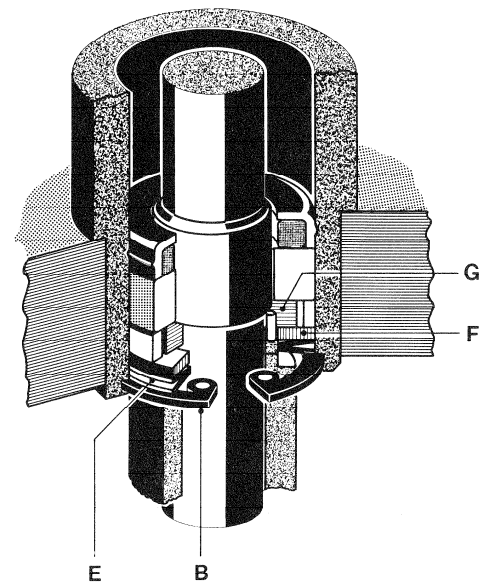

Fig. 3.5.-2
### 3.5. Capstan motor (fig. 3.5.-1)
- Pull shaft lock A carefully sideways (under high stress); fig. 3.5.-1. Take the rotor of the capstan motor out downwards.